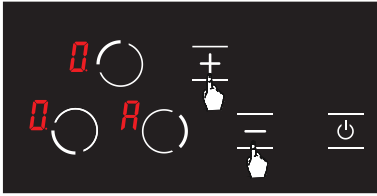

Figure 14
4. After setting the auto heating, you may set the cooking level desired using the **+** and **-** keys. (see Fig. 14) The **A** icon and the cooking level selected are displayed alternatively on the screen.